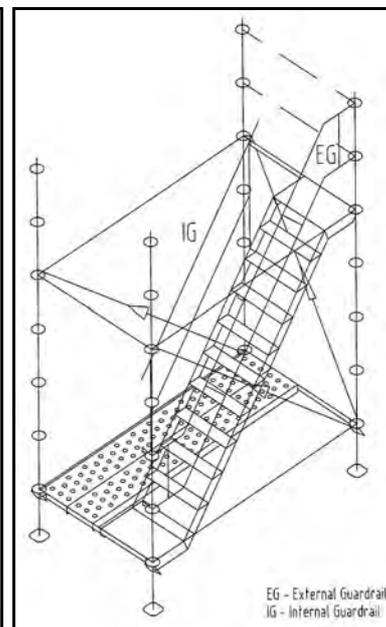

FIGURE 4.
8. Ascend stair to platform and attach 2 ledgers to form double guardrail across tower. **(Fig 4.)**
9. Attach 2 guardrail adaptors to the inside of the standard at the foot of the stair (attach at 1.0m and 0.5m heights). Fit external guardrail unit and secure with wedges. Note: external guardrail fits over end guardrails at top and over guardrail adaptors at bottom. **(Fig 4.)**